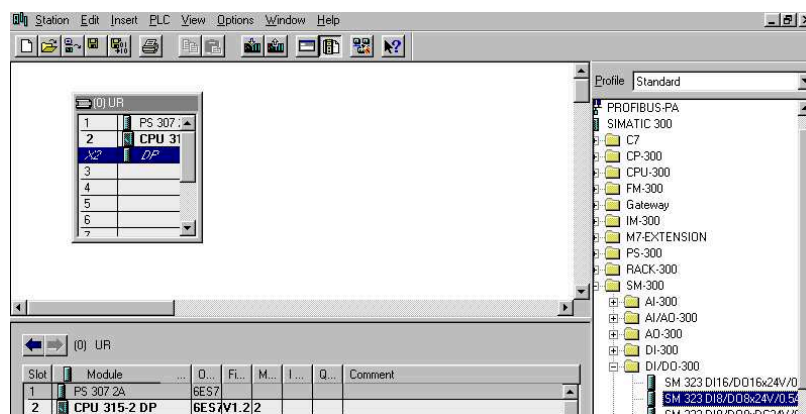

Figure 6-16 Select I/O Module
25. Select the type of I/O module (see Figure 6-16).